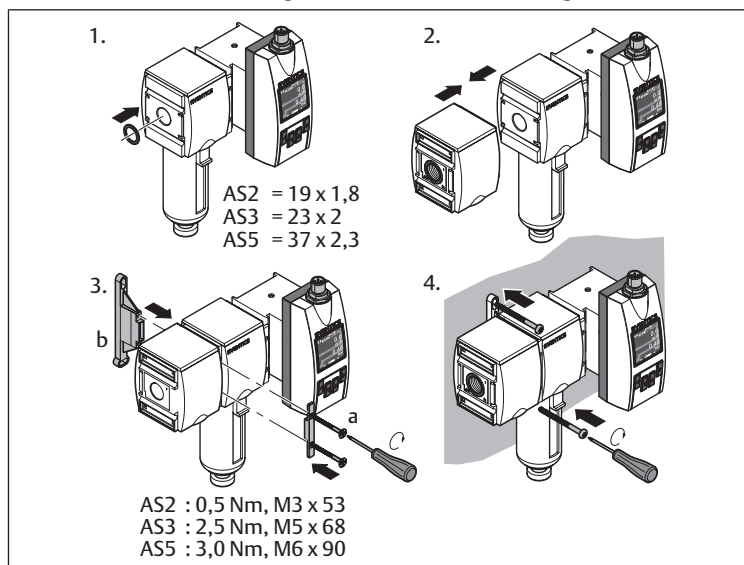

Fig. 5: Assembly with mounting bracket | W03
- Assembly with mounting bracket: see → Fig. 5.